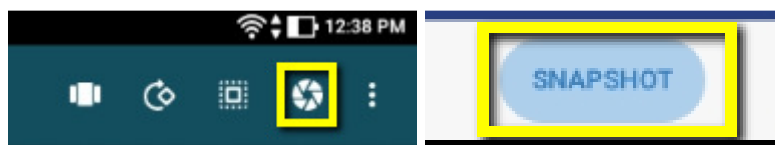
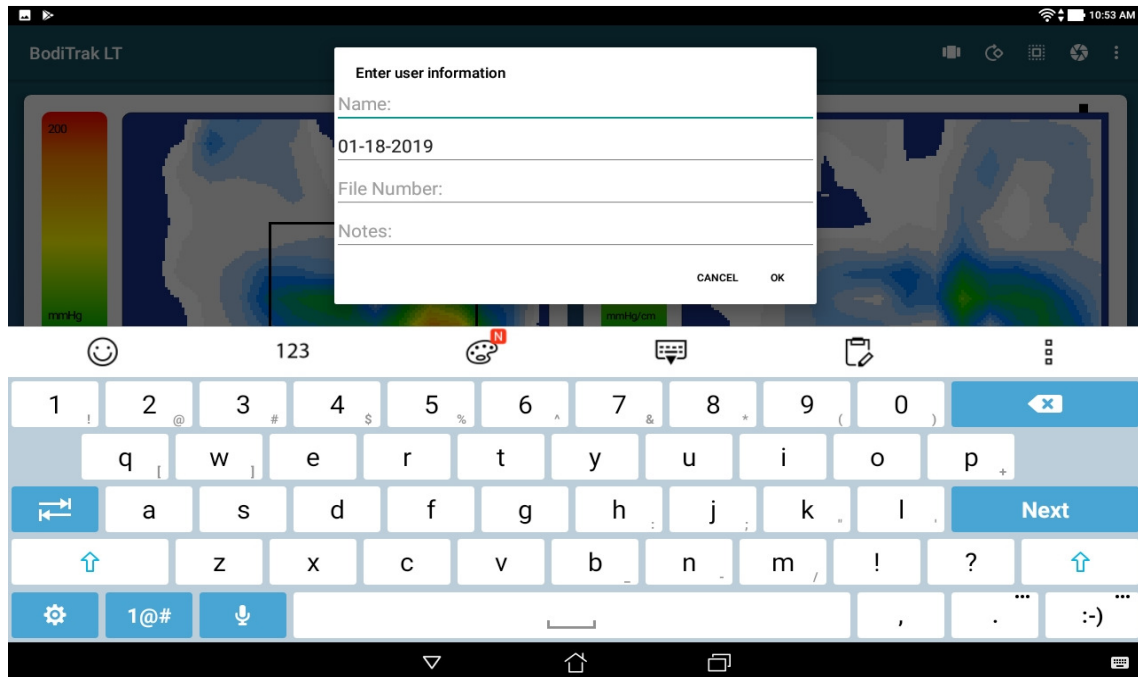

Figure 3 – selecting the snapshot icon
Figure 4 – entering user information
- A Snapshot icon (Figure 3) which allows you to take a screenshot. This will allow you to take a picture of the current screen at any time during the On-the-Go scanning. When the snapshot button is tapped you will be asked to enter User Information (Figure 4) and when you select OK the image will be saved.